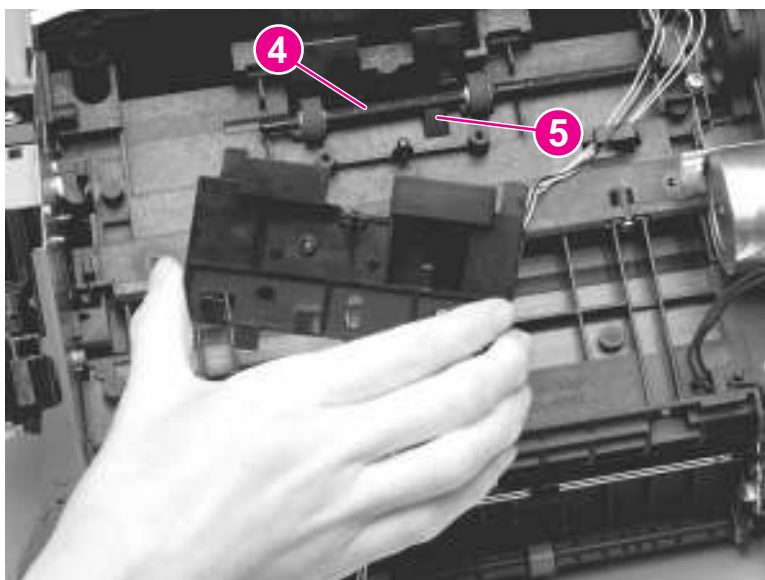

Figure 5-94. Remove the paper-feed assembly (2 of 4)
- b. Insert the bottom of the sensor flag into the hole in front of the paper-feed roller shaft (see callout 5 in Figure 5-94. Remove the paper-feed assembly \(2 of 4\)). The top of the sensor flag (callout 7) should move freely.